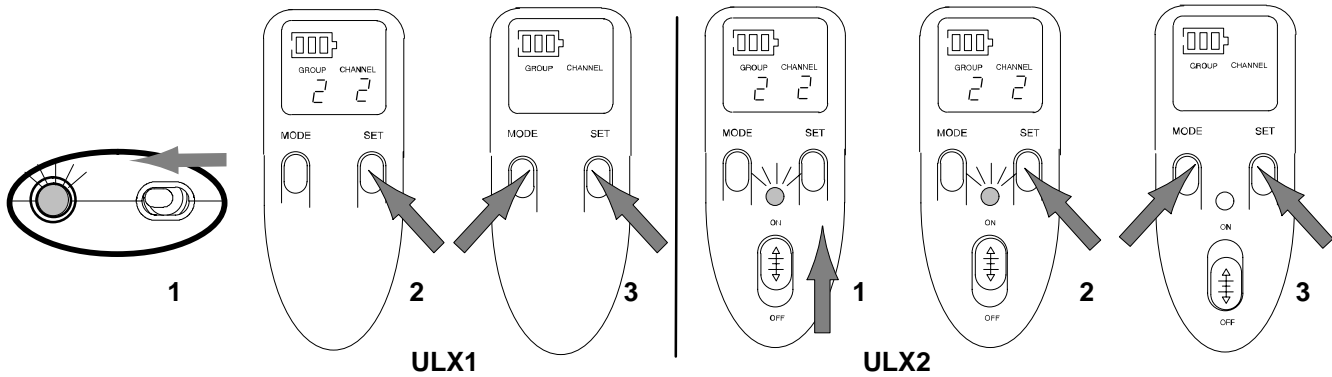

FIGURE 35
2. While holding down the SET button, press and hold the MODE button until "Po UL" appears on the display. See Figure 35. This display indicates that the Power On/Off switch is unlocked. The transmitter will then return to normal operating mode.